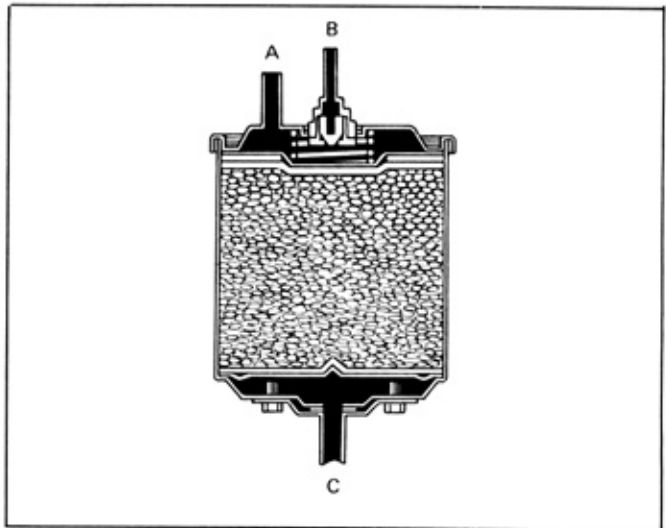

Fig. 18-50 Charcoal Canister Inspection (4M)
- (1) Disconnect the hoses from the charcoal canister.
- (2) As shown in Fig. 18-50, when air is blown in through pipe "A", it should flow out without resistance from pipes "B" and "C". At this time, the activated carbon should not be blown out.
- (3) When air blown in through pipe "B", air must not come out from pipes "A" and "C".